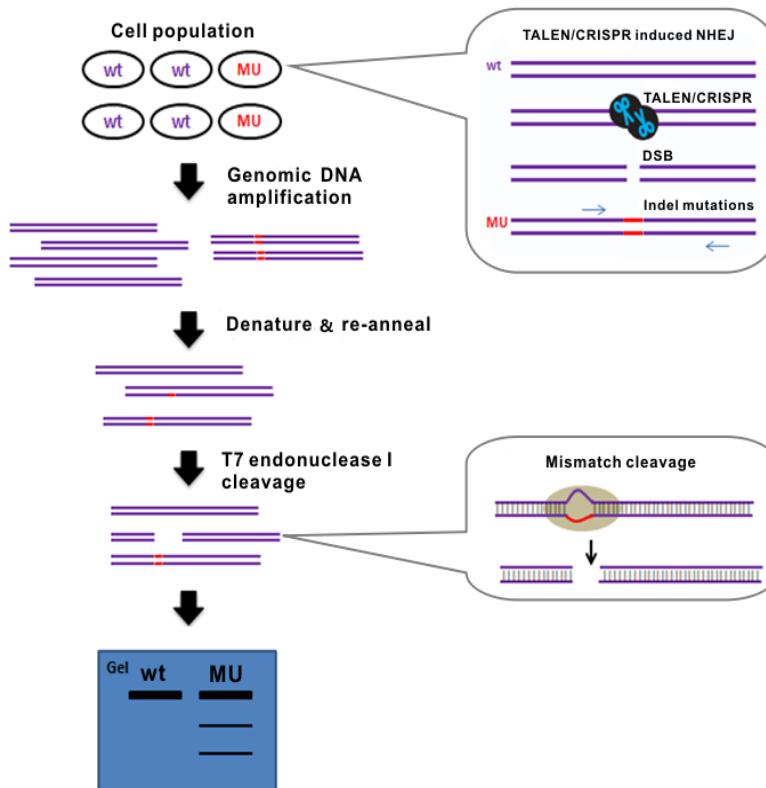
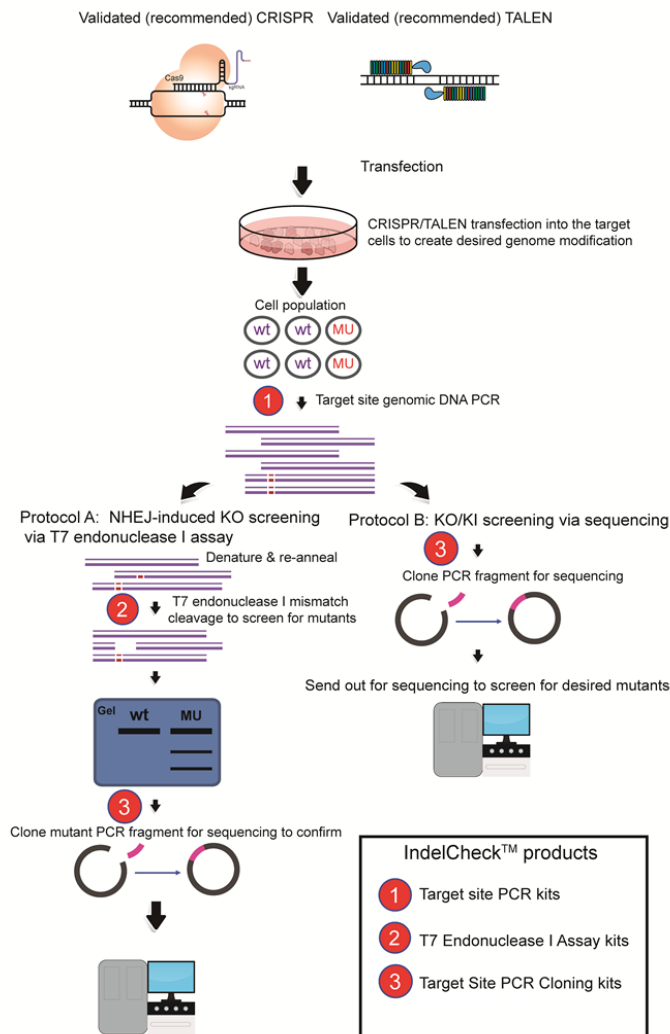

Figure 1. CRISPR or TALEN functional validation using the mismatch cleavage assay.
Figure 2. Using the IndelCheck™ system to screen for cell clones carrying desired CRISPR- or TALEN-mediated genomic modifications.
T7 endonuclease I can recognize and cleave such mismatched DNA. By incubating the re-annealed PCR fragments with T7 endonuclease I, if two shorter bands of the predicted size are generated, it usually means that CRISPR/TALEN has successfully introduced indel mutations at the targeted chromosomal site. The IndelCheck™ mismatch cleavage assay (using T7 endonuclease I) can be used for **1) functional verification of sgRNAs and TALENs** (Figure 1), as well as **2) screening cell clones for knockout (KO) and knock-in (KI) modifications** (Figure 2).
The **Target Site PCR Cloning kit (IC007, IC008)** includes T4 DNA ligase, a blunt-end vector, and sequencing primers for cloning and sequencing target site PCR products, for sequence verification of the target site in the genome. (Figure 2). The blunt-end vector contains a lethal gene between the insertion sites to minimize background, vector-only ligation.